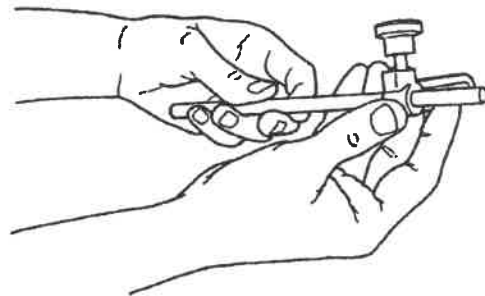

Fig. A-32
3. Put a flat washer (4) on the shaft of the other knob (3). Insert the knob (3) through the slot in the body. See Fig. A-32.